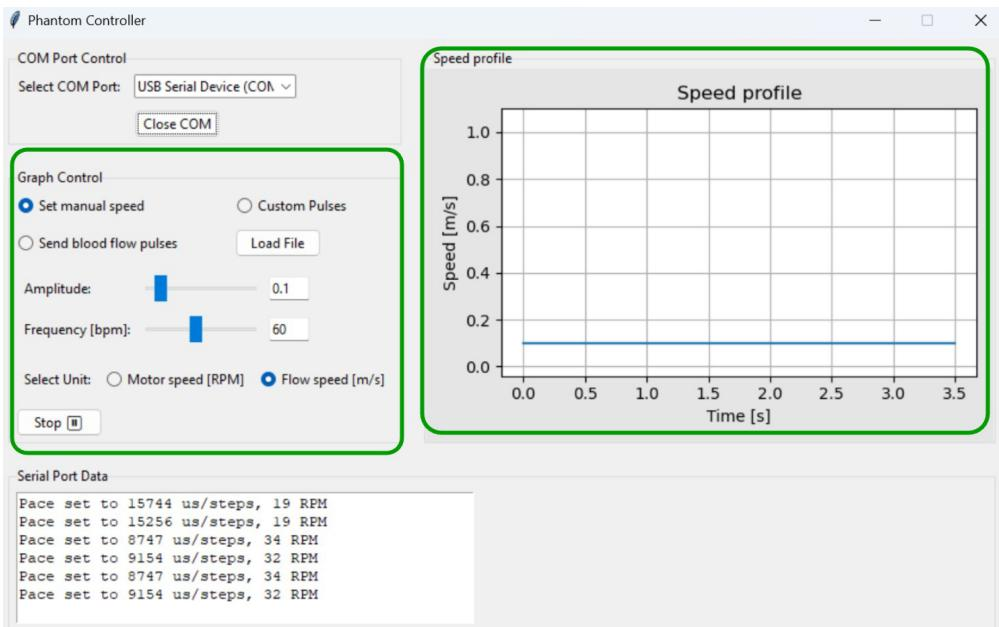

Figure 3.4: GUI Graph Control window for setting up manual constant speed. Adjust the amplitude, and the speed profile will update.
3. After successfully connecting to the Control Board, select the **Set Manual Speed** mode and input an amplitude of **0.1**, which sets a flow speed of **0.1 m/s**. If the motor does not start immediately, press the **Start** button. Refer to Fig. 3.4 for guidance.
In the GUI (Fig. 3.4, 3.6 and 3.7), the graph displays the flow rate through the phantom channels in meters per second (m/s). This estimate assumes a fixed channel diameter, the lead screw pitch, incompressible fluid, and rigid hydraulic lines to calculate the average flow rate. The user can also change the units to RPM (motor speed).